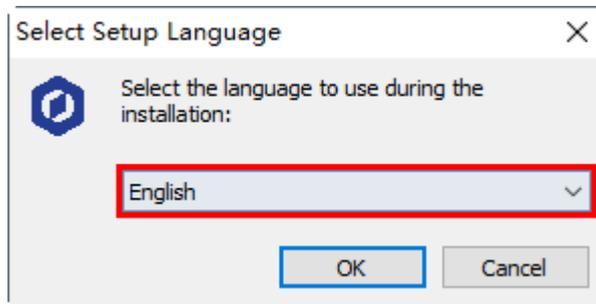

Figure 2.8 Select English
**Step 4** Choose a setup language such as **English**, as shown in Figure 2.8. You can also select **Chinese** if needed.